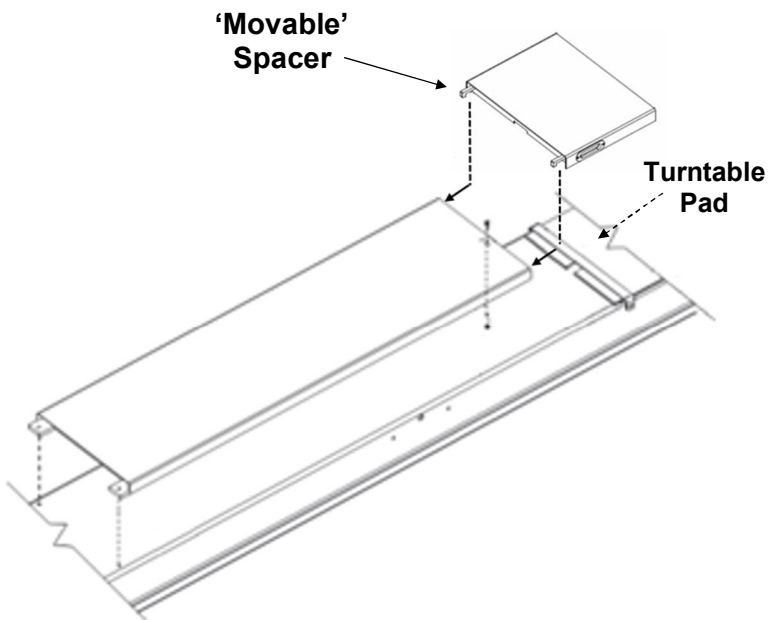
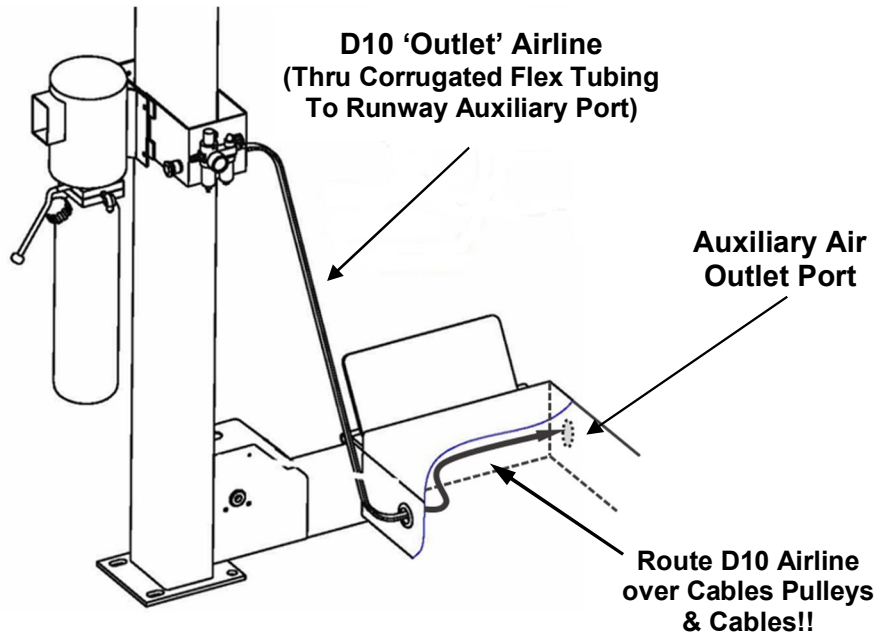

Fig. 5
Fig. 6
- 6) Position Movable Spacer (#4) on Runway behind Turntable Pad. Insert the hooks of Movable Spacer into the holes of the Long Spacer - **Fig. 5.**
- 7) Using D10 x 71+Airline, connect to remaining (M10) T-Fitting end in Fig. 5, then carefully route through the Corrugated Tubing to extend through runway hole and over & across to Auxiliary Air Outlet Port located on inside, front section of the runway, Fig. 6.